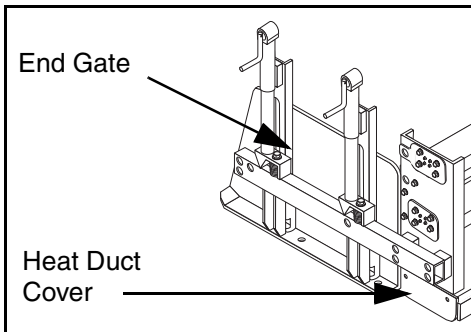

Figure 3 - 27 Preparation for Adding Extensions
- 1) Remove screed end gates and heat duct covers (Figure 3 - 27).